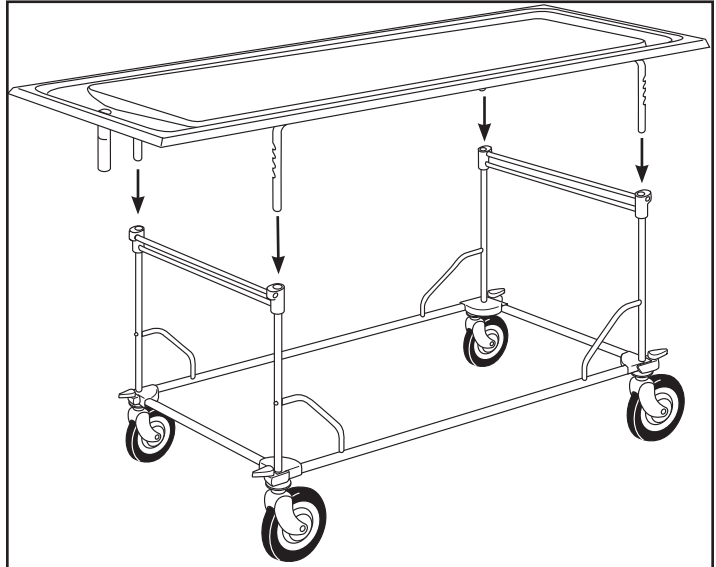

Figure 3 - Align the Table Top with the Corner Posts
2. Align the ratchet tubes on the table top with the corner posts on the table ends (Figure 3), then lower the table top into the corner posts